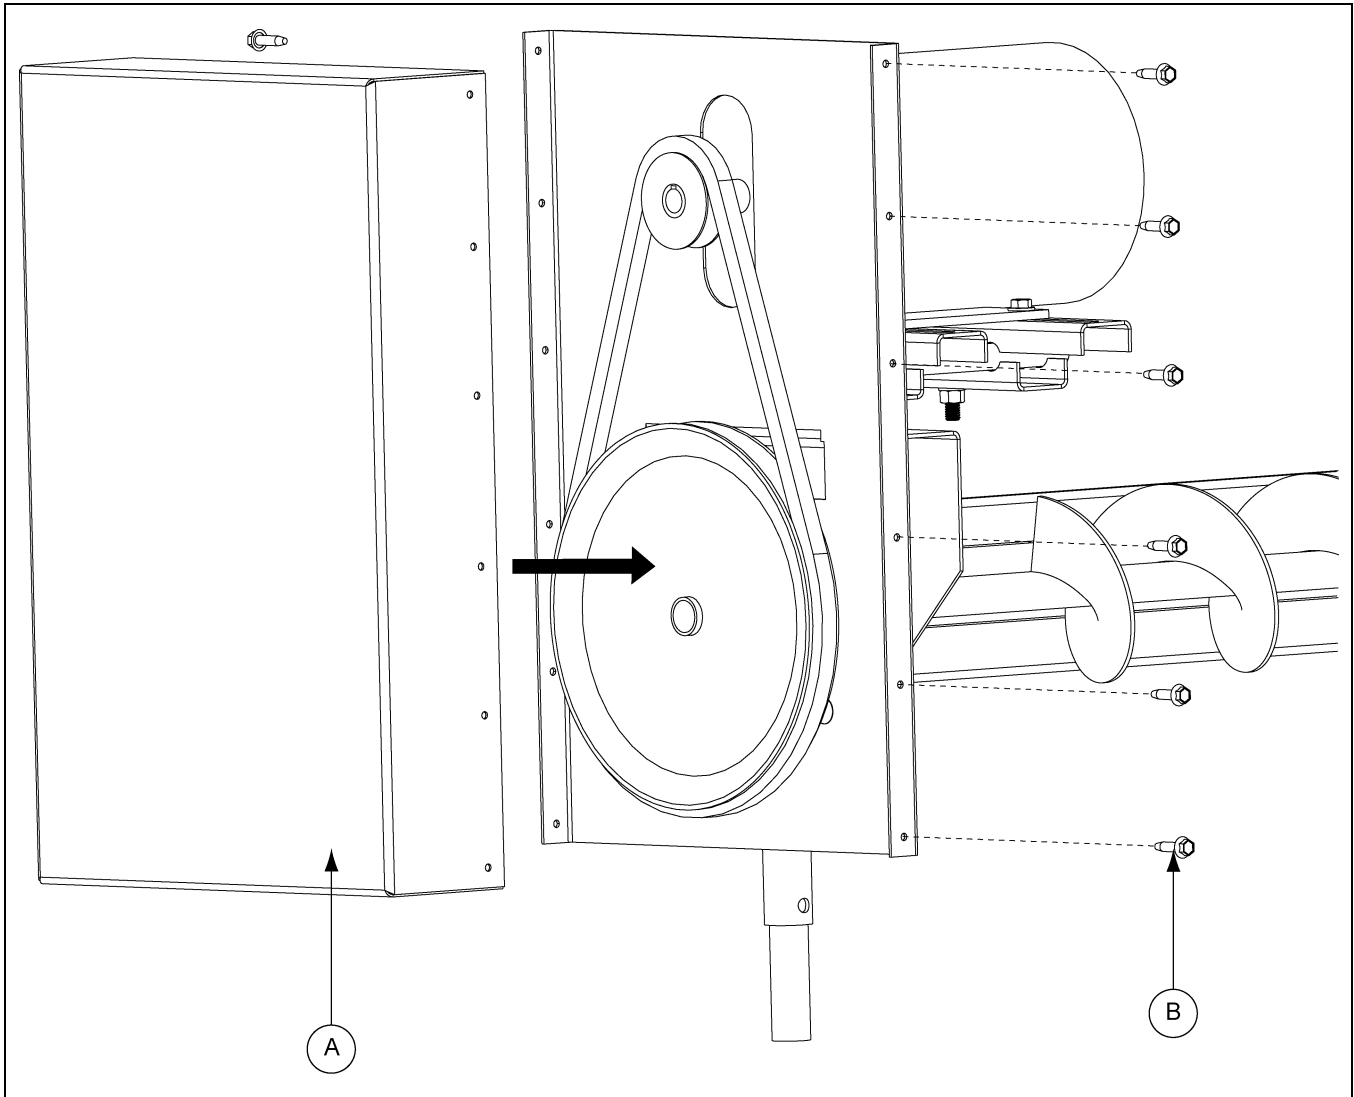

Figure 4X
Step 23: Attach belt drive cover. (See Figure 4X.)